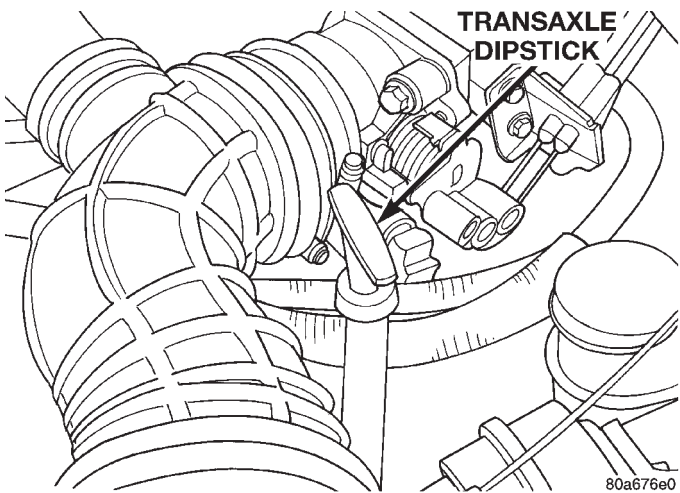

Fig. 8 Oil Level Indicator Location
(9) To prevent dirt from entering transaxle, make certain that dipstick is seated into the dipstick fill tube (Fig. 8).